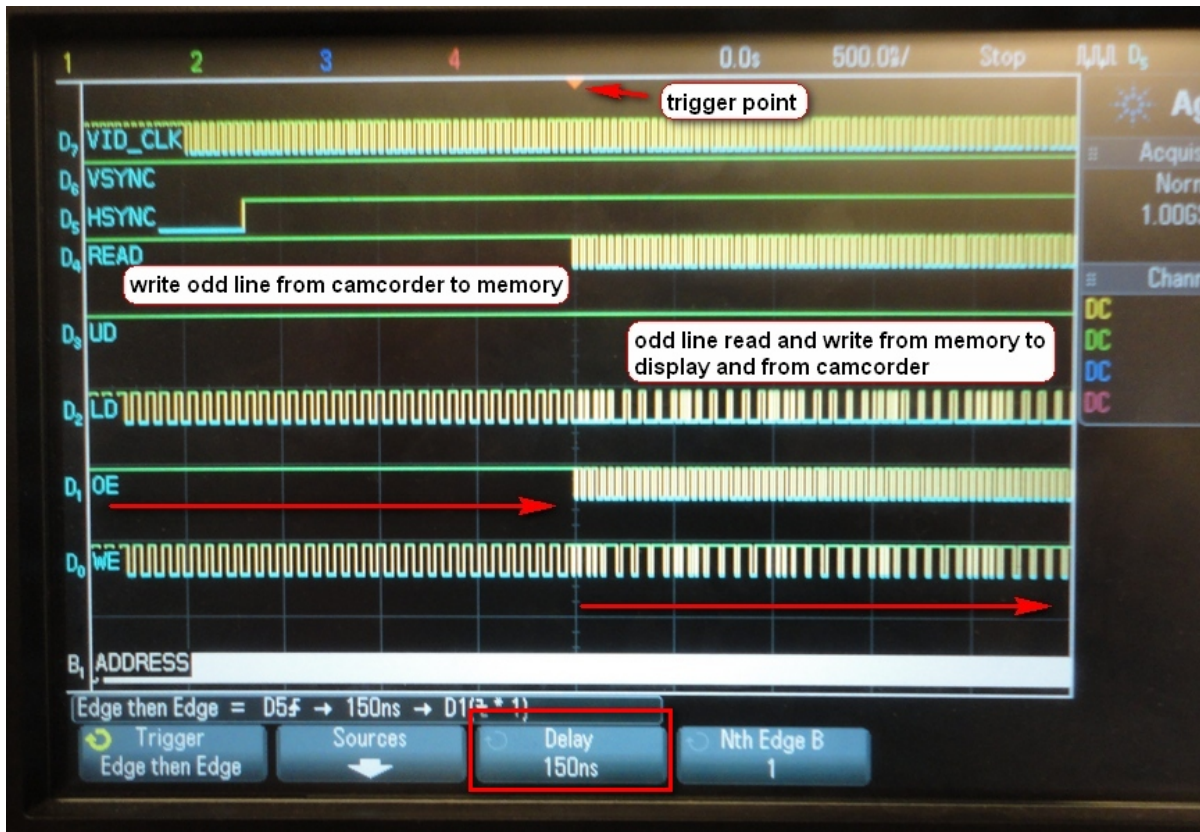

Figure 61- zoom in OE trigger
- Change **Delay** in **EDGE then EDGE** to **150 ns** (see figure 61).
- Press **Source** in **EDGE then EDGE** menu (see figure 61).
The result may or may not look similar **figure 61**. This is because we are triggering on **HSYNC** and it can be any one of 240 lines of odd or even video data. Let us make some observations of about this trigger capture.